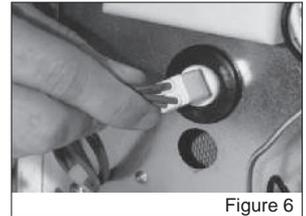

Figure 6
2. Unplug the lamp electrical connector from the end of the lamp (Figure 6).